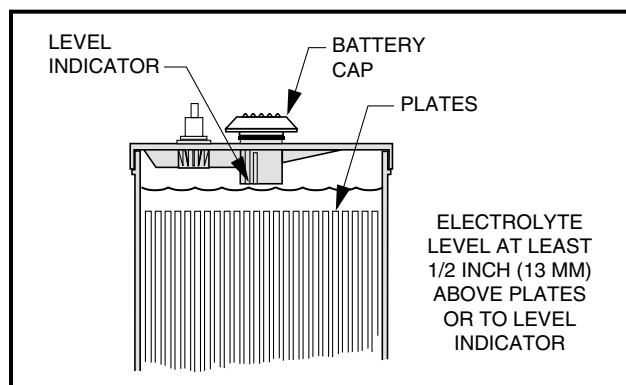

Figure 12 Battery Electrolyte Level
2. The electrolyte level in the batteries should be checked weekly (**Figure 12, Page 27**). Add water only after charging unless the electrolyte level is below the top of the plates. In this case, add just enough water to cover the plates, charge and then check the level again. Never charge batteries if plates are exposed above electrolyte level. For best battery life, add only distilled water. **See following NOTE.**